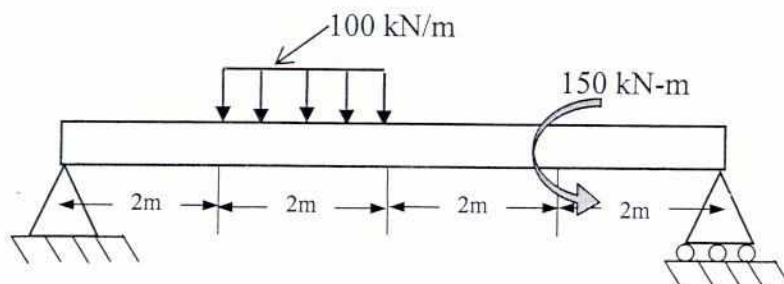

Fig. 5
- Q5 Compute the slopes at the ends and deflection at the midpoint of the simply supported beam shown in Fig. 5.